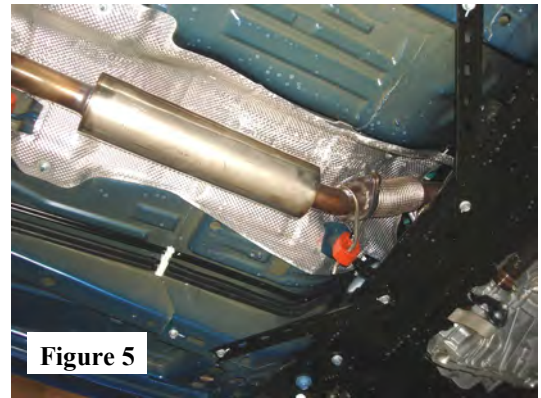

Figure 5
1. Using factory hardware and gaskets, attach Front Muffler Assembly to flange. (See Fig. 5)